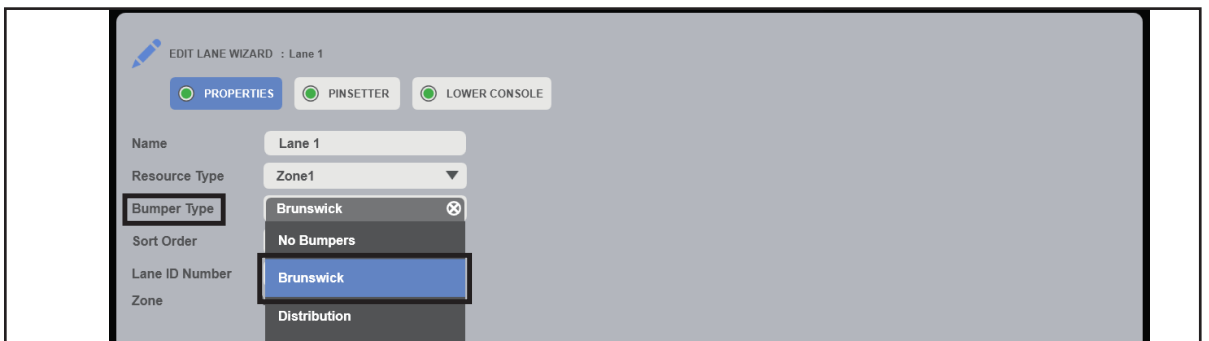

Figure 25. Edit Lane Wizard - Bumper Type
4. Using the drop down menu, select the appropriate bumper type. Click OK. Refer to *Figure 25*.